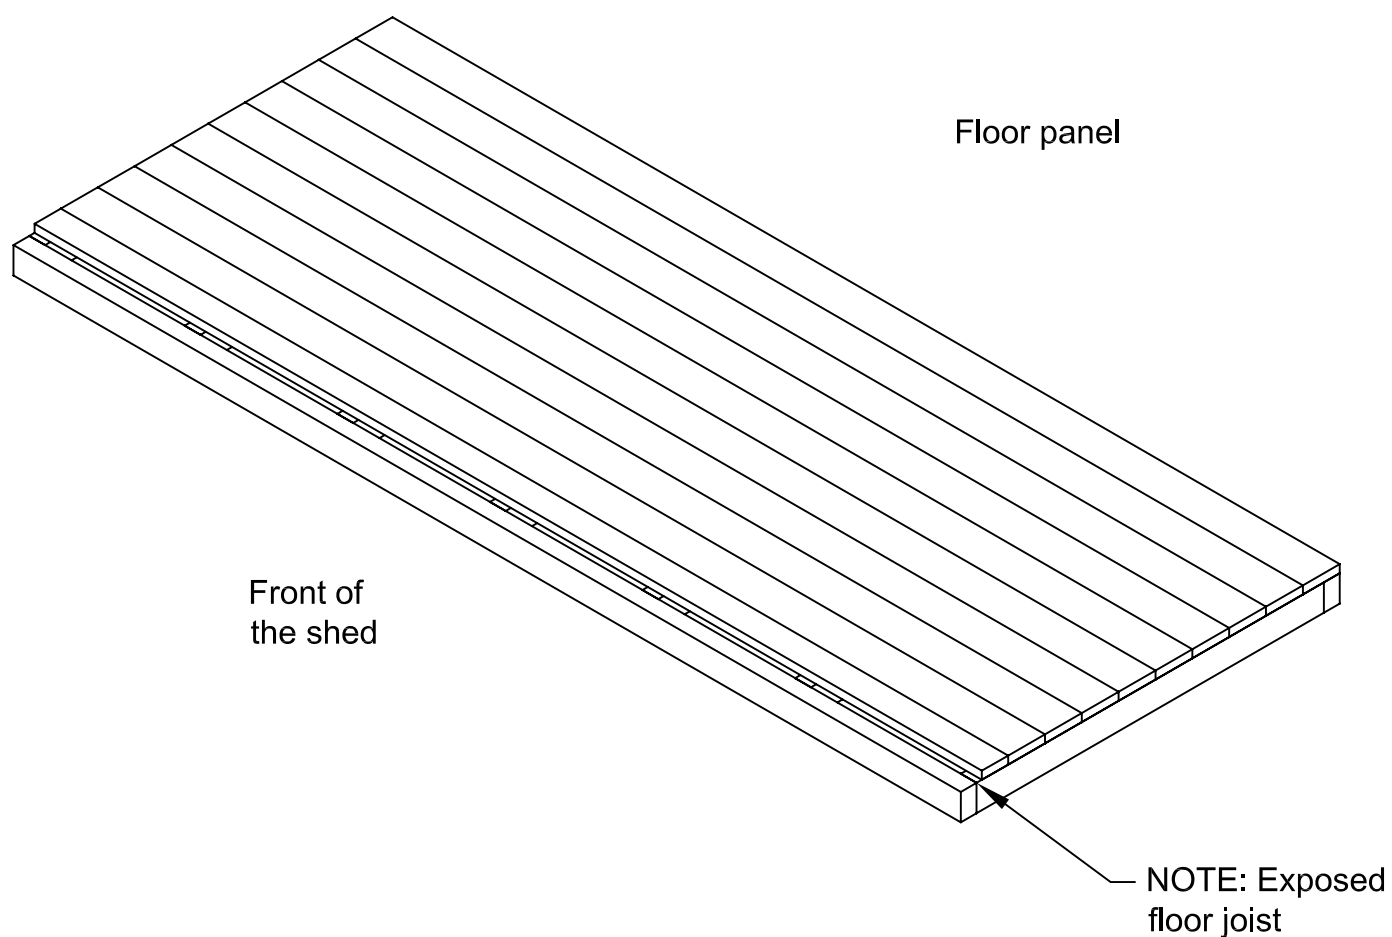

FIGURE S1
- Note that the "Front" edge of the floor, hence the front of the structure will be where the joist is slightly exposed. (See Figure S1).